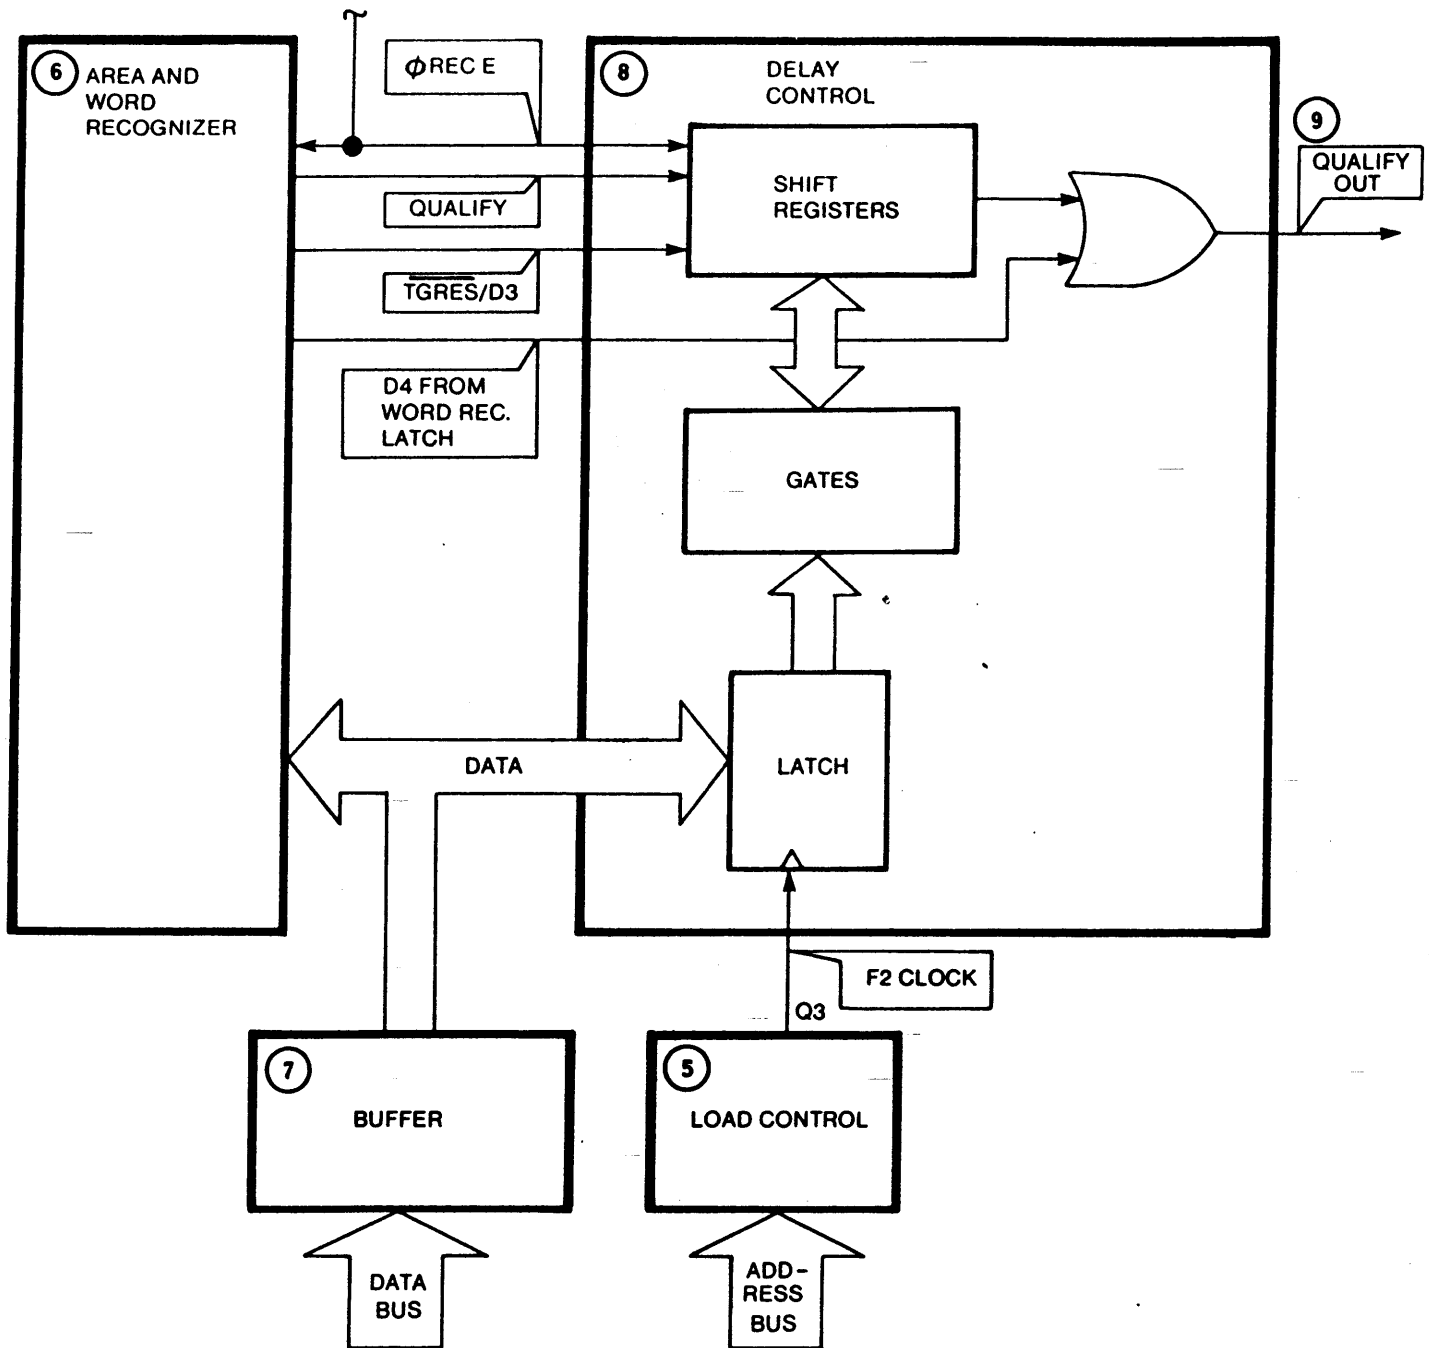

Figure 3-7. Future Delay Operation
Figure 3-7 shows how the "Future" Delay operates. This function is analogous to the analyzer being told to look for the next few pieces of data that will enter the "Memory Bucket" with the "Data Camera" in Figure 3-3. Again, the TGRES/D3 signal is applied to the Shift Registers to enable them, and the QUALIFY signal from the History Delay Data Selector (in ⑥), which latches them into the sample mode. The "Future" delay information is clocked into the Latch by the clock signal F2, which comes from the Load Control circuit, 5. During recording, this information is entered into the Shift Registers (parallel in-parallel out) and their associated Gates. At the end of each block of qualified data, the QUALIFY signal is shifted the programmed number of clock cycles, extending the signal BEYOND THE QUALIFIED RANGE. This shift from the qualified area thus causes "Future" data to be sampled after each block of the area desired.